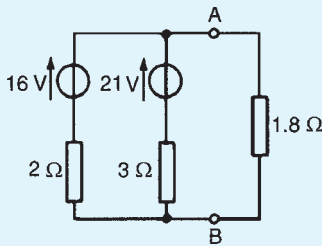

Figure 13.78
3. (a) Convert the network to the left of terminals AB in Fig. 13.78 to an equivalent Thévenin circuit by initially converting to a Norton equivalent network.
- (b) Determine the current flowing in the  $1.8 \Omega$  resistance connected between A and B in Fig. 13.78